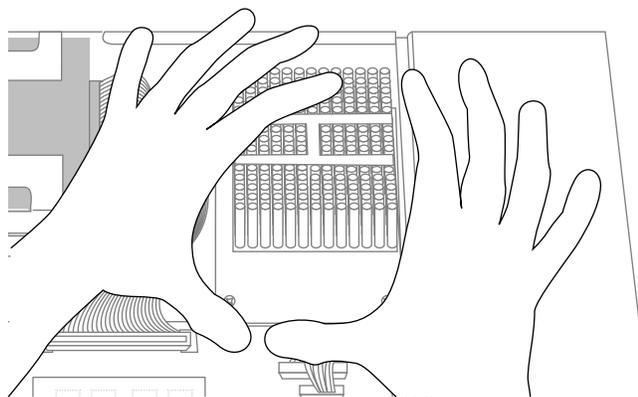

Figure 2-5 Disconnecting the CPU Module
3. Lift the board by bracing your hands against the power supply and the chassis and pushing the board up with your thumbs, as shown in Figure 2-5.